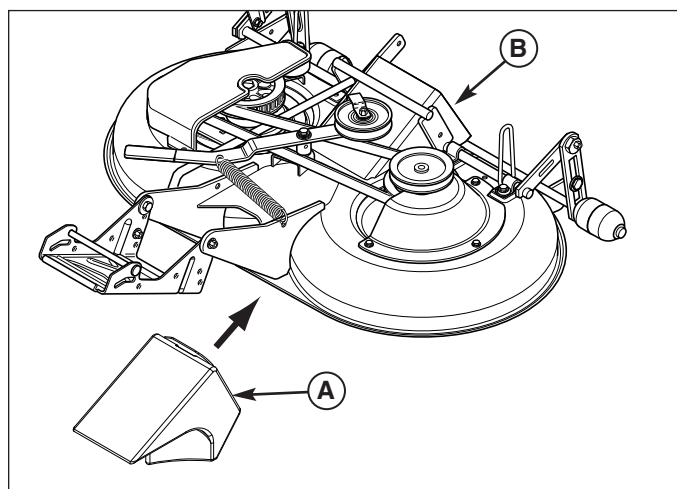

Figure 13. Install Mulch Plug
3. Insert mulch plug assembly (A, Figure 13) into discharge (B) from the under side of the mower deck.